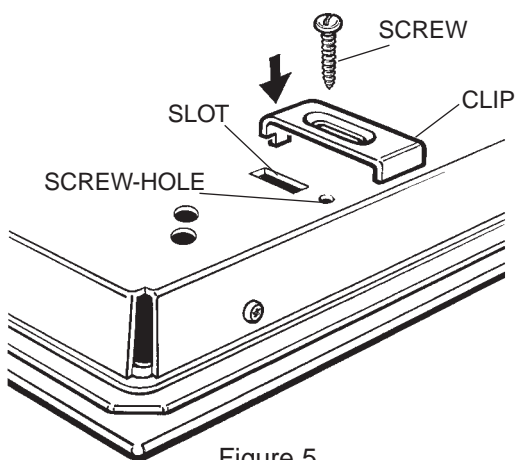
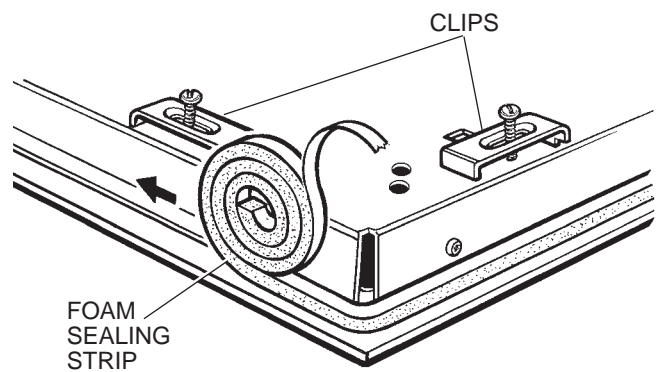

Figure 5
Figure 6
2. Fit the clips onto the hob by sliding the notched end into the slot and loosely screwing the screw into the screw-hole (Figure 5). Turn the clips round so that they are in line with the hob (Figure 6).
4. Stick the foam sealing strip around the underside of the hob, 5mm in from the edge, removing the adhesive backing as you go (Figure 6). When the sealant has been stuck round all four sides and meets up with itself, trim off any excess sealing strip, leaving a neat join.